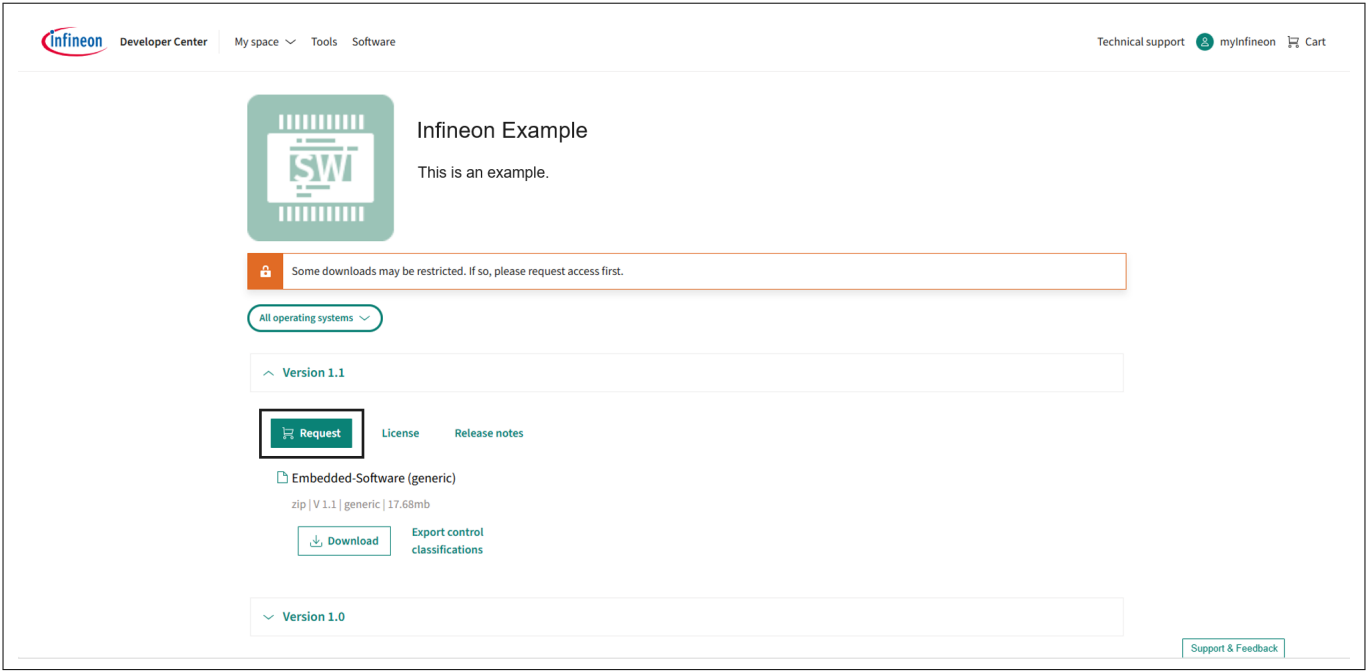

Figure 11 Software package within the Infineon Developer Center
3. Click **Request**, as shown in Figure 11